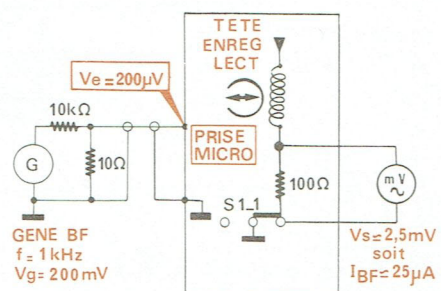

Fig. 11
b) CONTROLE DU COURANT BF NOMINAL (Fig. 11)